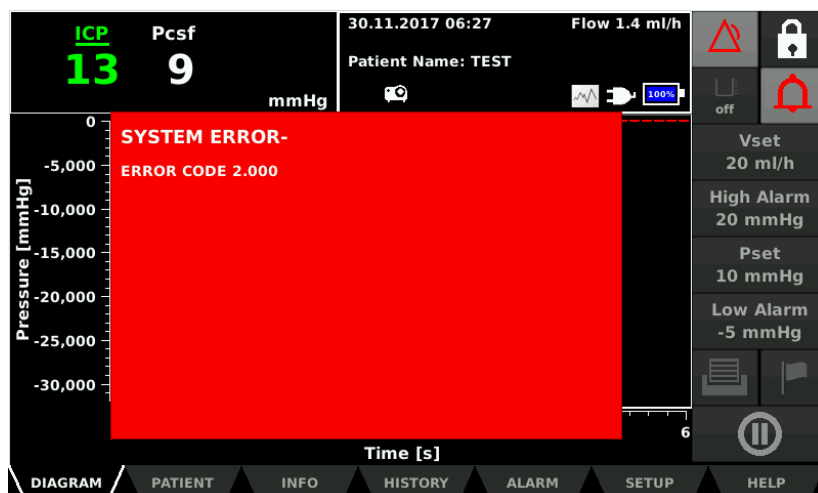

Figure 22: Configuration of the alarm message window in the event of a system error.
- A red window with an error code will appear on the display (see *Figure 22*)